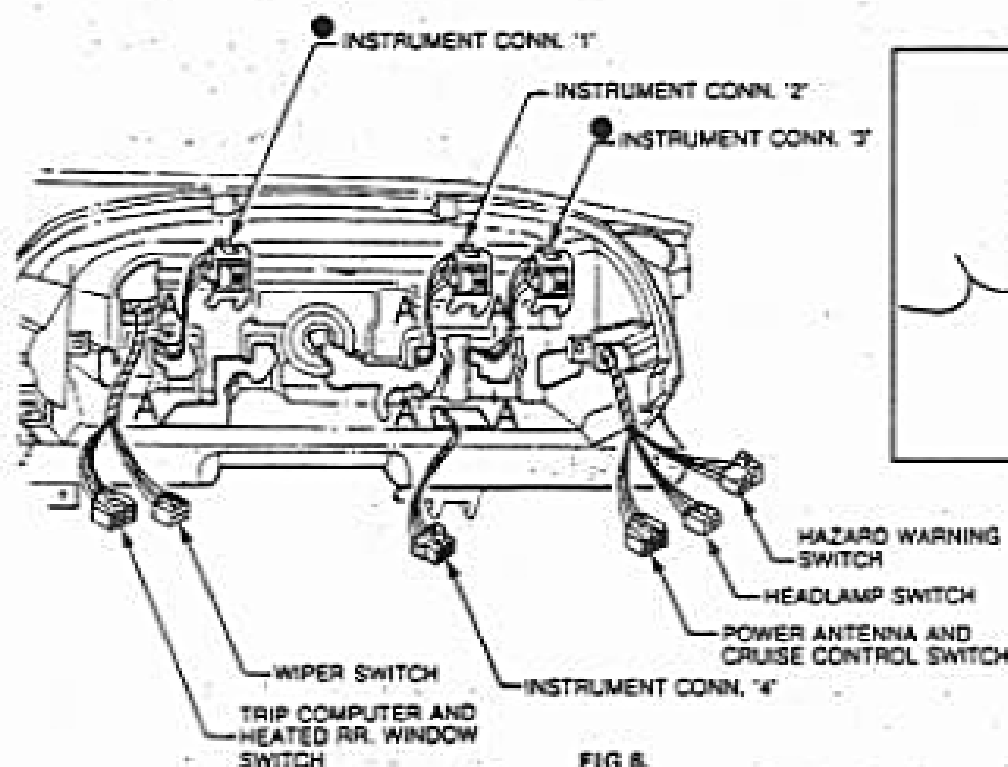

FIG 6.
5. Remove connectors 1 and 3 from cockpit module (Fig. 6).